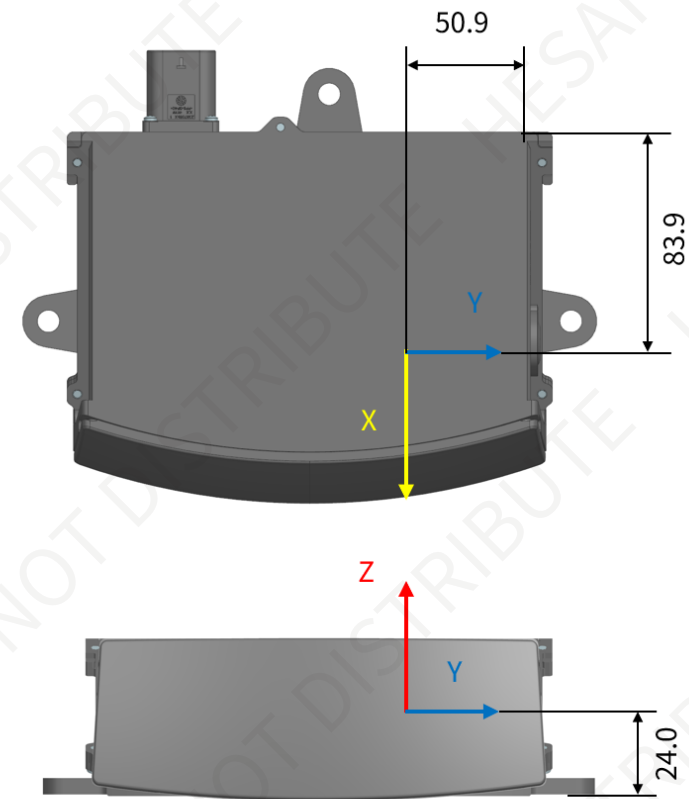

Figure 5. Origin of coordinates (unit: mm)
- The origin is shown in Figure 5. Origin of coordinates \(unit: mm\). All measurements are relative to the origin.